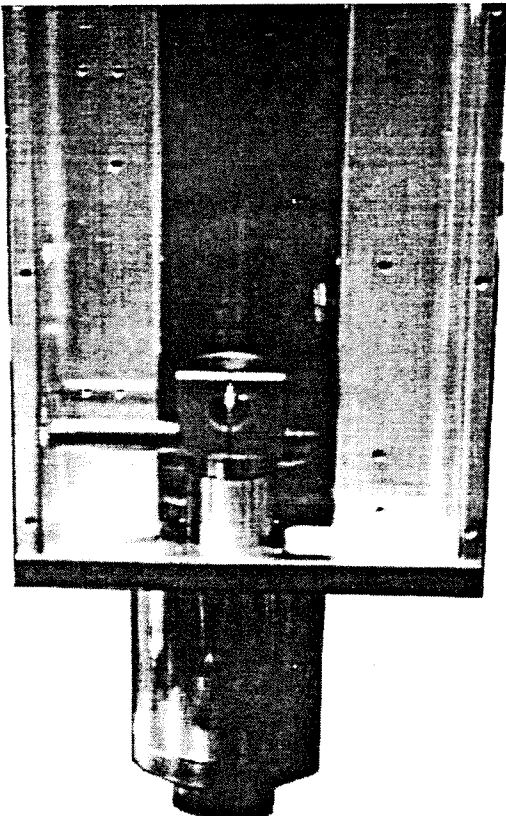

Figure 4
3. Install the left chip cover on the inside of the left angle on the lower assembly. The correct placement is with the large notch to the bottom. Use (3) of the (6) 8-32x3/8" Hex head bolts supplied.
9. Roll the quill down until the installation tool is close to the bearing bore in the bottom assembly. See Figure 4.